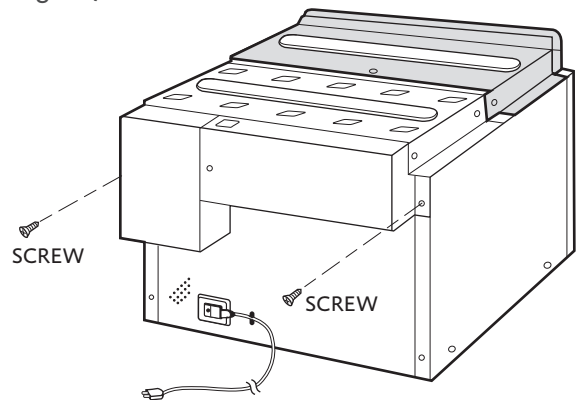

Figure 7
F. Remove SCREW from the upper right and left corners at the rear of the oven. Place duct assembly on the top of the unit as shown and secure the duct assembly to the oven using the two screws just removed from the oven. See Figure 7.